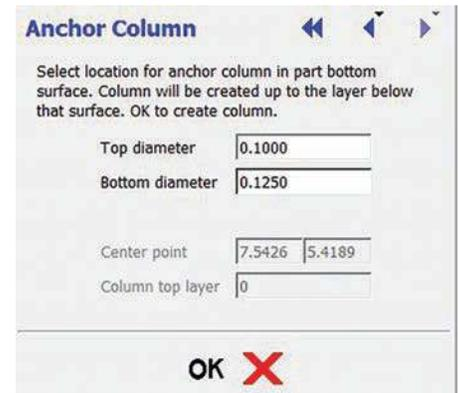

Figure 3: Specifying the anchor column dimensions.
STEP 2: Specify the desired **Top diameter** and **Bottom diameter** (Figure 3).